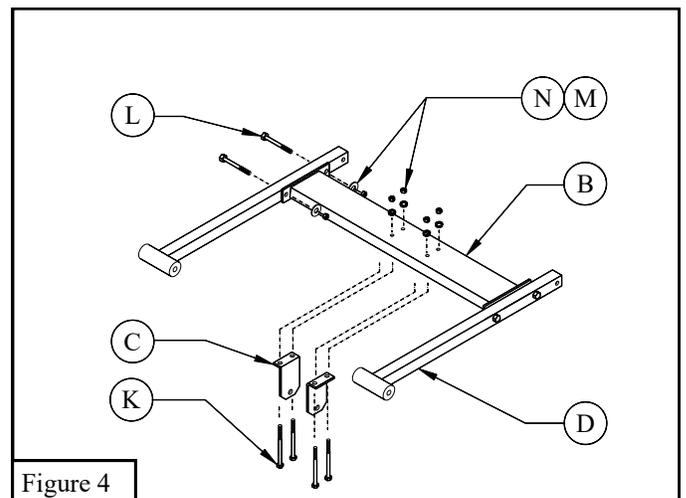
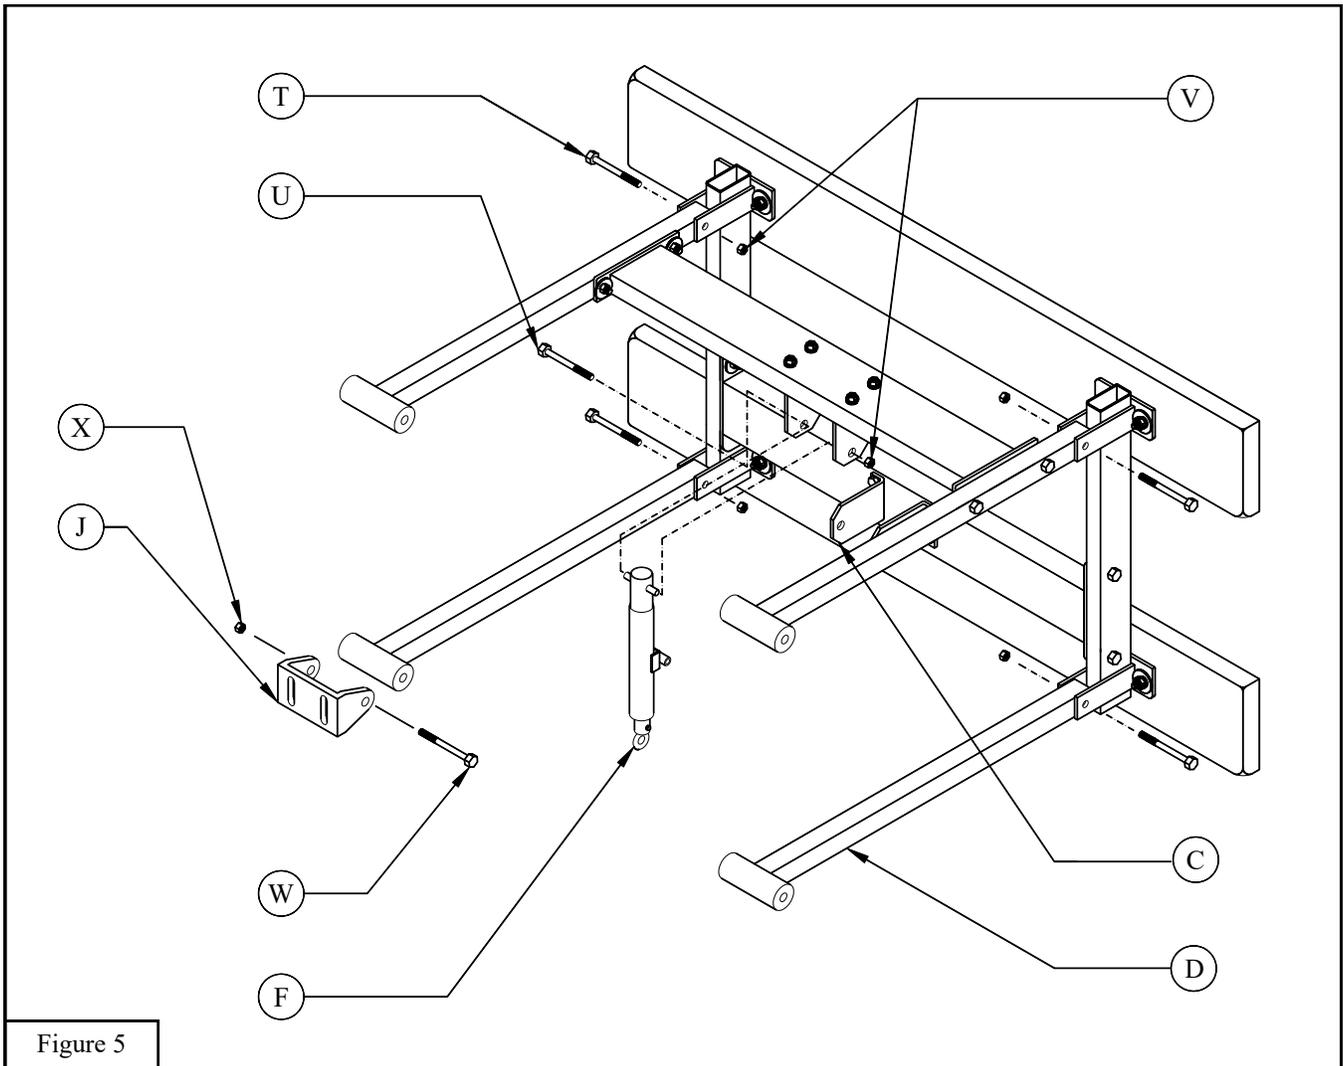

Figure 4
Figure 5
7. Attach the second *Crank Mount Strut* (B) to the two top *Extension Tubes* (D) with the $3/8'' \times 2 1/2''$ *Hex Bolts* (L), $3/8''$ *Lock Washers* (N) and $3/8''$ *Hex Nuts* (M). Install two *Crank Mount Brackets* (C) to the *Crank Mount Strut* (B) using the $3/8'' \times 3''$ *Hex Bolts* (K), $3/8''$ *Lock Washers* (N) and $3/8''$ *Hex Nuts* (M). Tighten all hardware. See Figure 4.
8. Attach top extension tube assembly from instruction #7, figure 4 to the *Wall Mount Rails* (A) using the $1/2'' \times 3''$ *Hex Bolts* (T) and $1/2''$ *Lock Nuts* (V). Attach both bottom *Extension Tubes* (D) to the *Wall Mount Rails* (A) using the $1/2'' \times 3''$ *Hex Bolts* (T) and $1/2''$ *Lock Nuts* (V). Tighten all hardware then loosen $1/4$ of a turn or until each assembly pivots freely up and down. See Figure 5.
9. Install *Crank* (F) to the *Crank Mount Brackets* (C) using the $1/2'' \times 5''$ *Hex Bolts* (U) and $1/2''$ *Lock Nuts* (V). Position the *Crank* (F) so that the lower mounting tube on the crank is toward the wall. You may need to loosen the *Crank Mount Bracket* (C) hardware to allow for proper *Crank* (F) mounting. Be sure to retighten the *Crank Mount Bracket* (C) hardware. Tighten crank mount hardware then loosen $1/4$ of a turn or until *Crank* (F) moves freely. See Figure 5.
10. Install one *Backboard Mounting Hinge* (J) to the pivot on each extension tube using the $5/8'' \times 6 1/2''$ *Hex Bolts* (W) and $5/8''$ *Lock Nuts* (X). Tighten all hardware then loosen $1/4$ of a turn or until each assembly pivots freely up and down. See Figure 5.